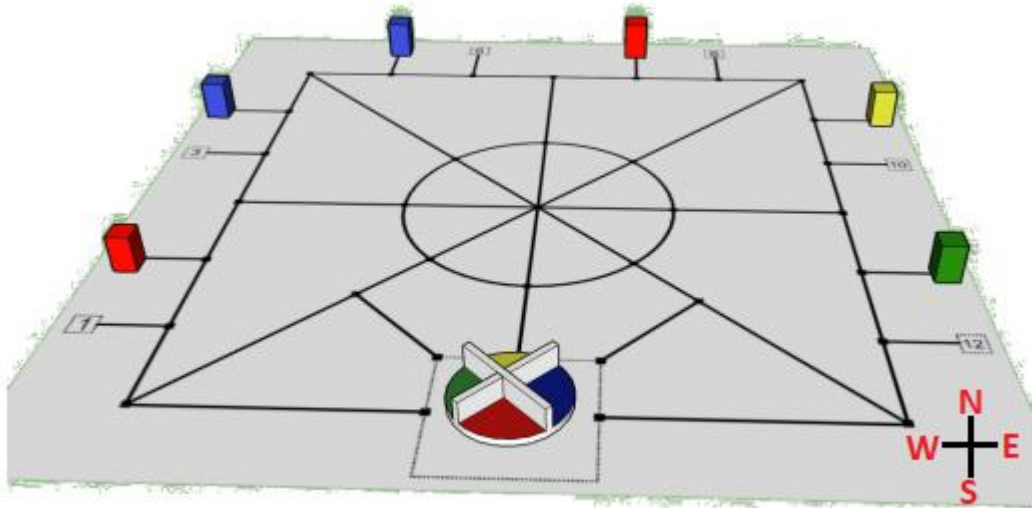

Figure 6: Arena with Blocks and Rotating Structure
Important: Use the direction compass given in Figure 6 for any placement using Structure Sequence.
- Final arena after placing the Rotating Structure according to the example Structure Sequence is shown in Figure 6.
Note: The arena shown in Figure 6 is specific to the example considered. During the competition, the placement of Blocks and placement of section positions will be different. In Blender interface, create the farm scenario having different pick up points and where the Crates are placed. According to placement sequence, the Crates position on Blender interface should also be varied.